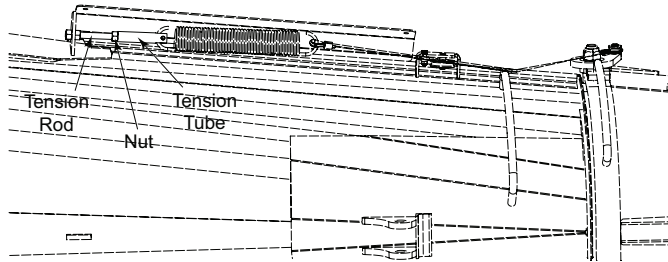

Figure 7
4. Loosen the nuts on the tension rod during the adjustment (Figure 7).
5. Use a pair of vice grips or other suitable tool to hold the tension tube and turn the tension rod clockwise to increase the tension or counter-clockwise to reduce the tension (Figure 7).